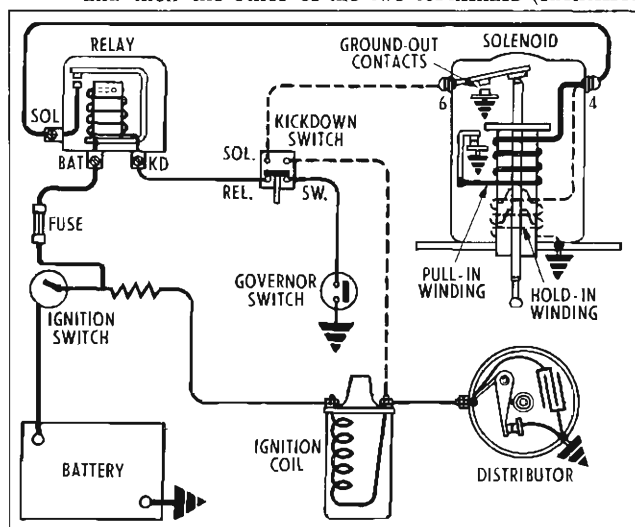

Fig. 4B—Overdrive Electrical Circuit Wiring Diagram
- a. With the engine running, connect a jumper lead between the No. 6 terminal of the solenoid and ground. Operate the kickdown switch by hand. This should stop the engine. If it does, the solenoid is probably defective and it should be checked for dirty ground-out contacts or other defects within the ground-out circuit of the solenoid (fig. 4B). Clean the contacts or replace the contact plate as required.